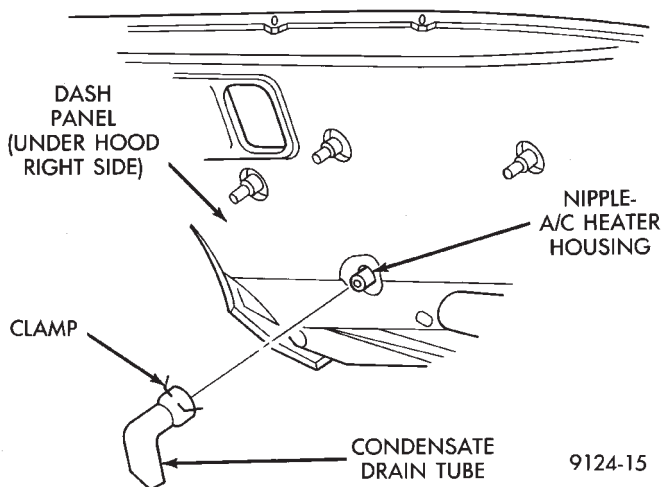

Fig. 1 Condensate Water Drain Tube—Typical
(1) Raise vehicle.
(2) Locate rubber Drain Tube on right side of dash panel (Fig. 1).
(3) Squeeze clamp and remove drain tube.